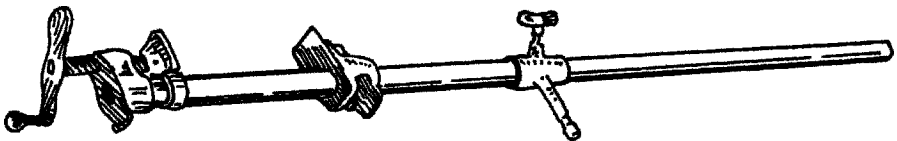

Figure 2.51 Pony pipe clamp.
The pony pipe clamp (Figure 2.51) is a heavy-duty clamp that has an adapter with a 5/8-in. pin attached to it. This is an ultra-heavy-duty type of furniture clamp. The clamp consists of a 1-in. outer diameter (OD) tube or pipe that can be changed in length as needed.